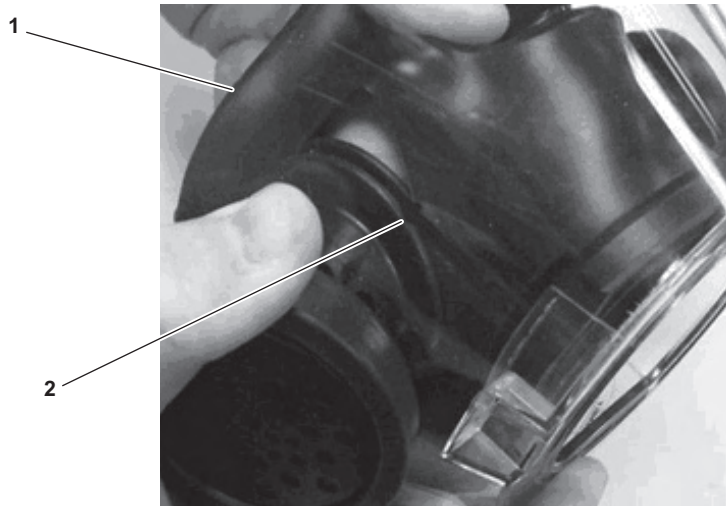

Figure 6-11. Remove AV-3000® Nosecup Assembly
- (3) From inside the facepiece, separate the nosecup assembly (figure 6-11, item 1) from the voicemitter duct groove (figure 6-11, item 2).
- (4) Carefully pull the nosecup assembly (figure 6-11, item 1) to remove it from the other voicemitter duct groove (figure 6-11, item 2).
- (1) Visually inspect the nosecup assembly (figure 6-11, item 1) for heat damage, cracks, discoloration, cuts or abrasions. If damage is noted, replace as required.
- (2) Inspect the nosecup assembly (figure 6-11, item 1) for cleanliness. If dirt or other foreign matter is found, clean IAW PMCS (Chapter 4).
- (6) Install the nosecup assembly (figure 6-11, item 1) into the voicemitter duct groove (figure 6-11, item 2). Perform step c.(6) again to install in the other voicemitter duct groove.